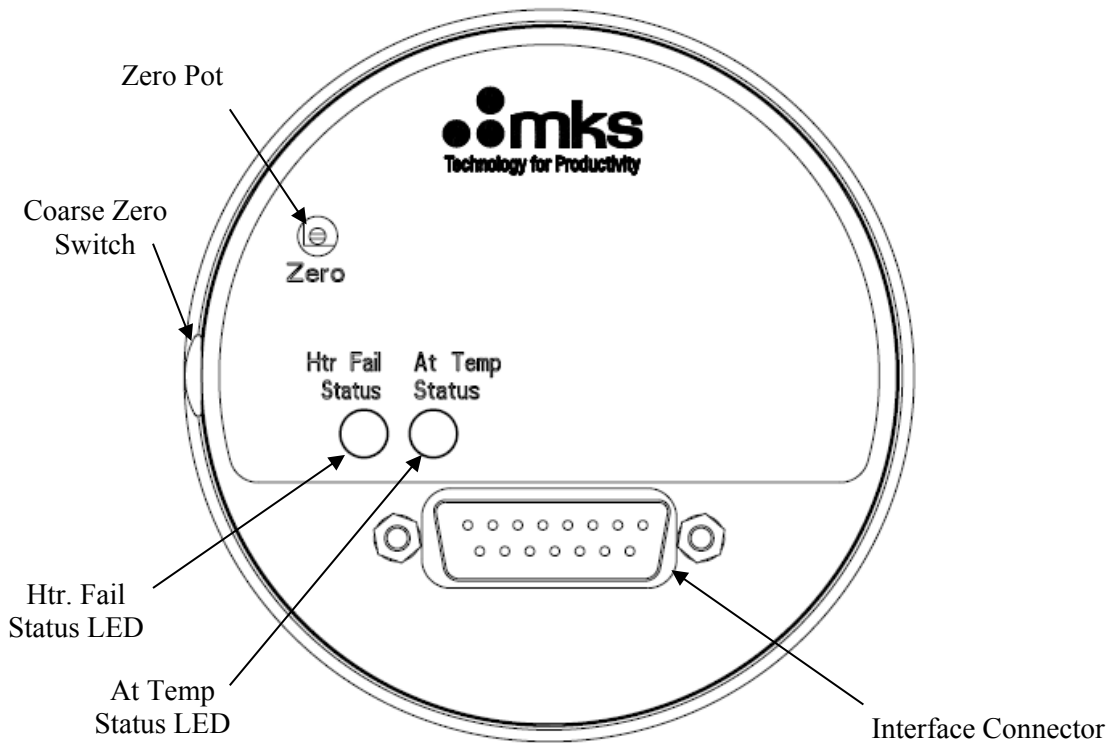
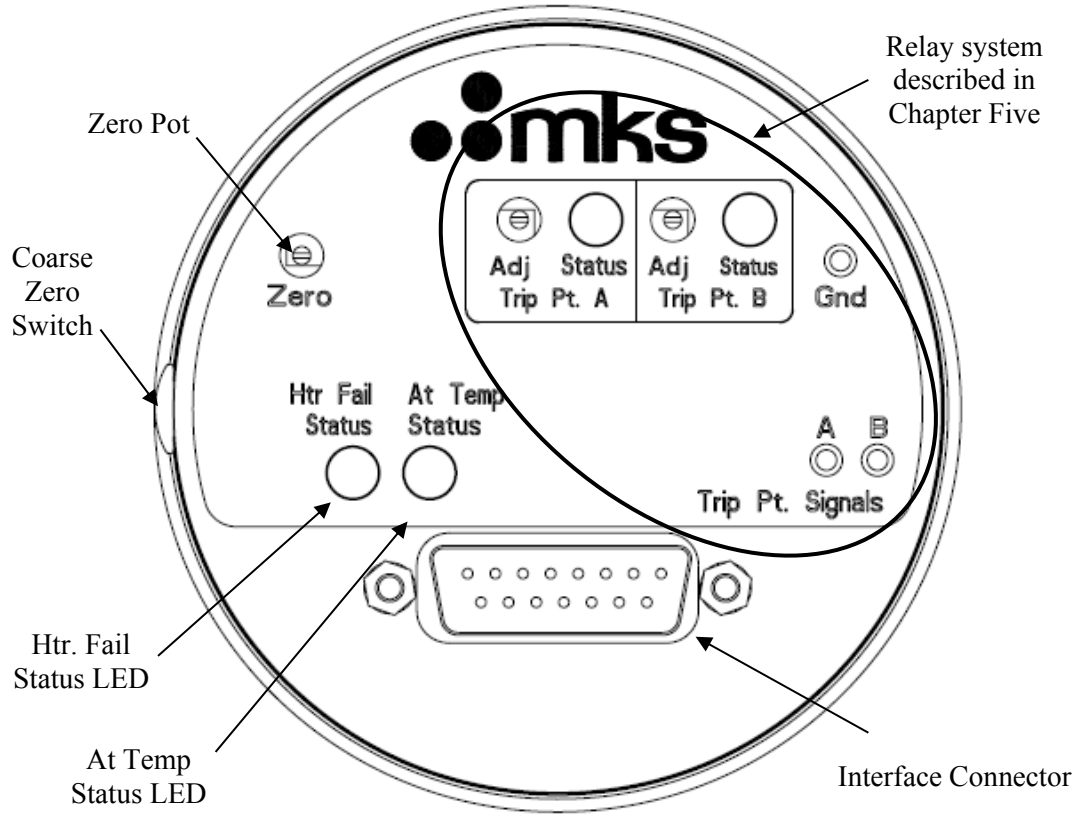

Figure 2: Top View of the Type 631C Transducer Without Optional Relay System
Figure 3: Top View of the Type 631C Transducer With Optional Relay System
The 631C transducer is powered by a single ± 15 VDC power supply for both the electronics and heater. The cable connection to the 631C transducer via the Interface connector is shown in Figure 2: Top View of the Type 631C Transducer, page 30. Refer to Table 6: Pinout of the Interface Connector (J1), page 34, for the complete list of pin assignments for the Interface connector.
The 631C transducer has two adjustments for zero, a potentiometer and a coarse zero switch. The location of both are the same for the 631C with and without the trip point relay system and are shown in Figure 2: Top View of the Type 631C Transducer Without Optional Relay System and Figure 3: Top View of the Type 631C Transducer With Optional Relay System, pages 30 and 31, respectively.
The top of the 631C transducer without the optional relay system has two LEDs to indicate the status of the sensor heater. At power up, the “At Temp Status” LED will be yellow. Once the sensor temperature reaches the normal operating temperature, this LED will turn green. The “Htr Fail Status” LED is off unless the heater unit fails. Should the heater unit fail, “Htr Fail Status” LED will illuminate red and the “At Temp Status” LED will turn yellow. A “heater alarm relay” will become de-energized and change state providing a remote indication of a heater circuit failure using dedicated pins in the interface connector. Refer to Figure 2: Top View of the Type 631C Transducer Without Optional Relay System, page 30, to identify the location of the “At Temp Status” and “Htr Fail Status” LEDs. Refer to Heater Status LEDs and Heater Alarm Relay, page 40, for a detailed discussion of the operation of the heating system LEDs and relays.
The transducer with the optional trip point relay system has the same functionality as the transducer without the relay system described above. The relay system brings an additional two LEDs, two adjustment POTs and three test plugs to the top of the transducer. (Refer to Figure 3: Top View of the Type 631C Transducer With Optional Relay System, below, showing the location of the trip point relay system components.) The trip point status LEDs glow green when the corresponding relay is energized and are off when the corresponding relay is de-energized, depending on the relationship between the pressure output and the trip point value. (Refer to Chapter Five: Optional Relay System, page 43 for a complete description of the relay system.)
The Interface connector (J1) is a 15-pin male type D-subminiature connector. Refer to Figure 2: Top View of the Type 631C Transducer, page 30, for the location of the Interface connector for the 631C without the optional relay system. Refer to Figure 3: Top View of the Type 631C Transducer With Optional Relay System, page 31, for the location of the Interface connector for the 631C with the optional relay system. It contains the pins to connect the 631C unit to a power supply or power supply/readout. Table 6 specifies the pinout of the Interface connector.
4. Adjust the ZERO potentiometer with a small screwdriver until the readout displays zero (0.000). Typically, the ZERO potentiometer provides ample control under normal conditions. However, if the ZERO potentiometer fails to provide sufficient adjustment, additional zero range capability is available with the COARSE ZERO switch, located on the side of the unit (refer to Figure 2: Top View of the Type 631C Transducer, page 30, or Figure 3: Top View of the Type 631C Transducer With Optional Relay System, page 31, for location of the ZERO potentiometer and coarse zero switch.) Refer to *How To Adjust the Coarse Zero Switch*, page 39, for more information.